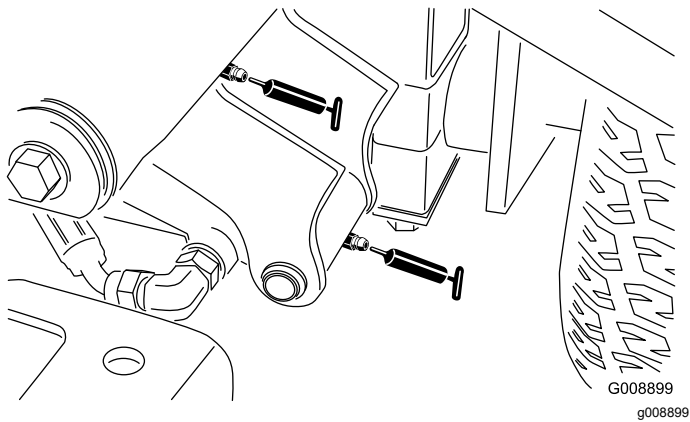

**Figure 37**
- 2 rear lift-arm pivots and lift cylinder (Figure 37)